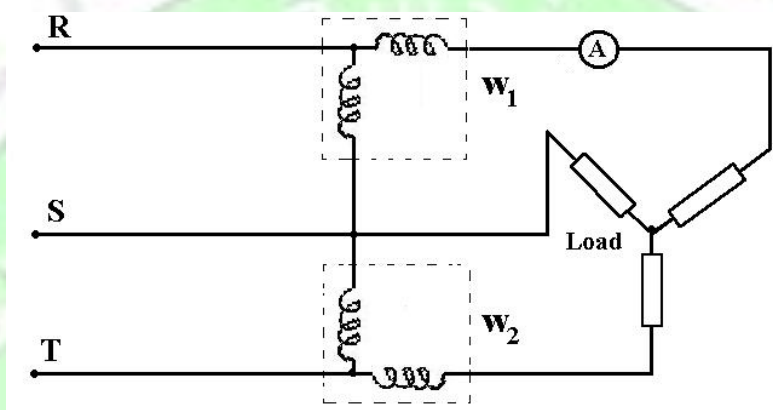

Fig. 4
- 1- Wire the circuit shown in Fig. 4